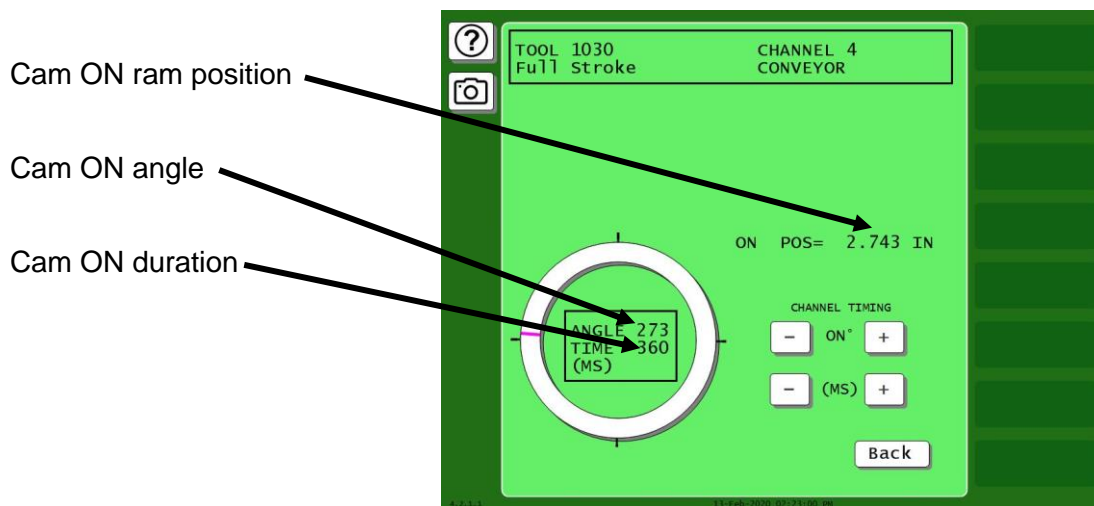

Figure 5-51. Cam Channel Timed Output Program Screen
- Select PROGRAM TIMED OUTPUT on the Cam Channel Program Type Menu. The Cam Channel Timed Output Program screen displays, Figure 5-51.
The precise On angle value is displayed next to the Angle caption in the window inside the clock display. The corresponding ram position (in inches) is shown in the ON POS = field at the right of the screen. In Figure 5-51 the On angle is set to 273°; the ram On position is 2.743 in.
3. Set the On time in milliseconds (maximum is 500 mS, or 0.5 seconds), using the Up (▲) cursor key to increment the Time value displayed in the window and the Down (▼) cursor key to decrement the Time value. The Time value changes in increments of 10 mS. In Figure 5-51, the On time is set to 50 mS.